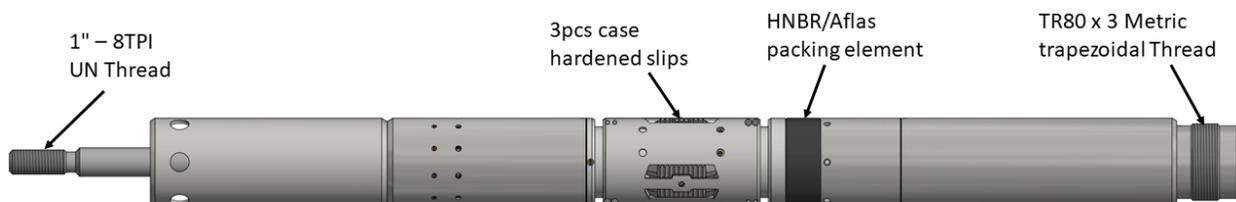

Figure 1: LBA features with running interface attached
All shear screws are size M6, brass, with a shear force of 1300 lbs each. Screws can be placed in four different locations as shown in Figure 1 and Table 2. It is important that the proper number of screws are located in each position, so the setting sequence occurs in the correct order. Please contact www.wins.no if a different sequence of shear screws is desired beyond those given in Table 2.
- 5) If all other attempts fail, the LBA should be milled. Locations for Slips and Packing Element can be seen in Figure 1.